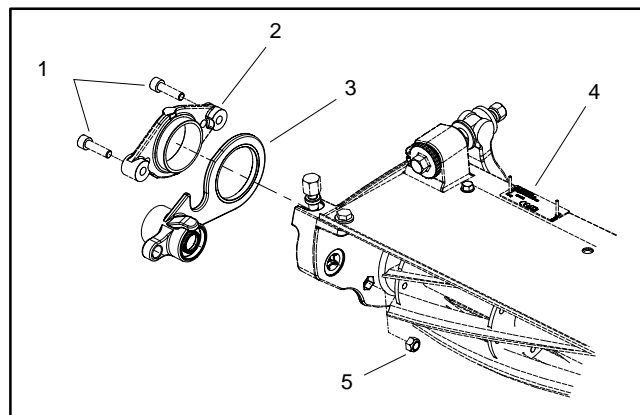

Figure 14
B. Remove two (2) socket head screws and lock nuts that secure motor mount to cutting unit (Fig. 14). Remove motor mount from cutting unit.
C. Position motor mount to groomer side plate (Fig. 14). Secure motor mount and groomer side plate to cutting unit with two (2) socket head screws and lock nuts.